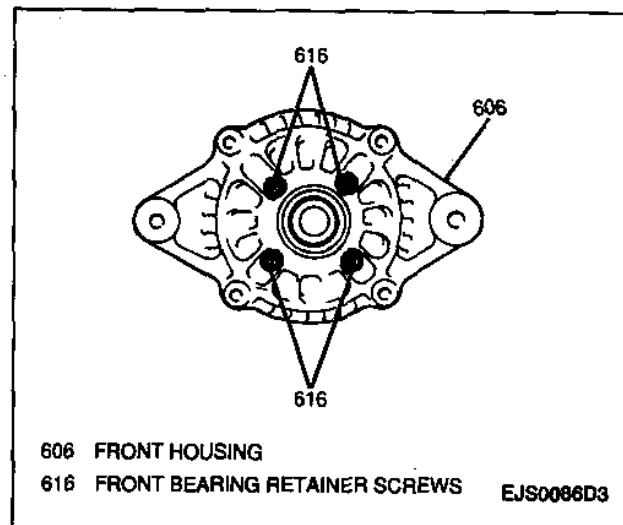

Figure 8—Front Bearing Retainer Screws
9. Four screws, front bearing retainer and front bearing from front housing (Figure 8).